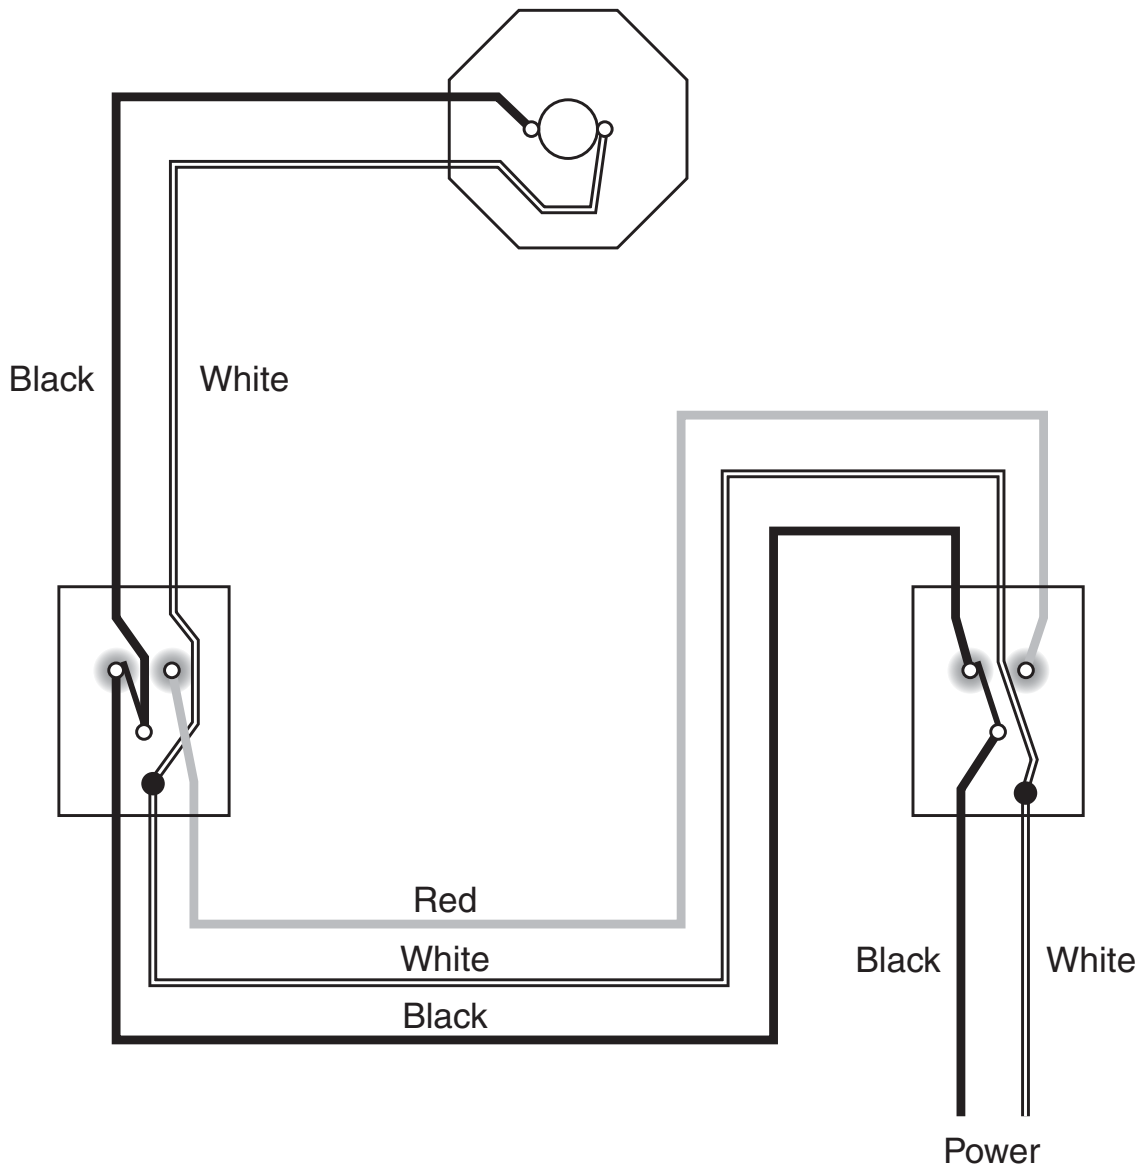

Figure 8-12 Rule 4: Connect the travelers.
4. *Connect the travelers.* The travelers are used to connect the two remaining terminals on each 3-way switch (Figure 8-12). The red and black conductors of the three-conductor cable are used to make this connection.